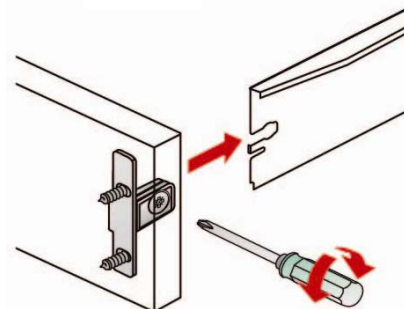

Fig 6
10. Secure the face panel to the drawer box by tightening each connector to the side panels, making one half turn clockwise on each connector cam lock. (See Fig. 6.)